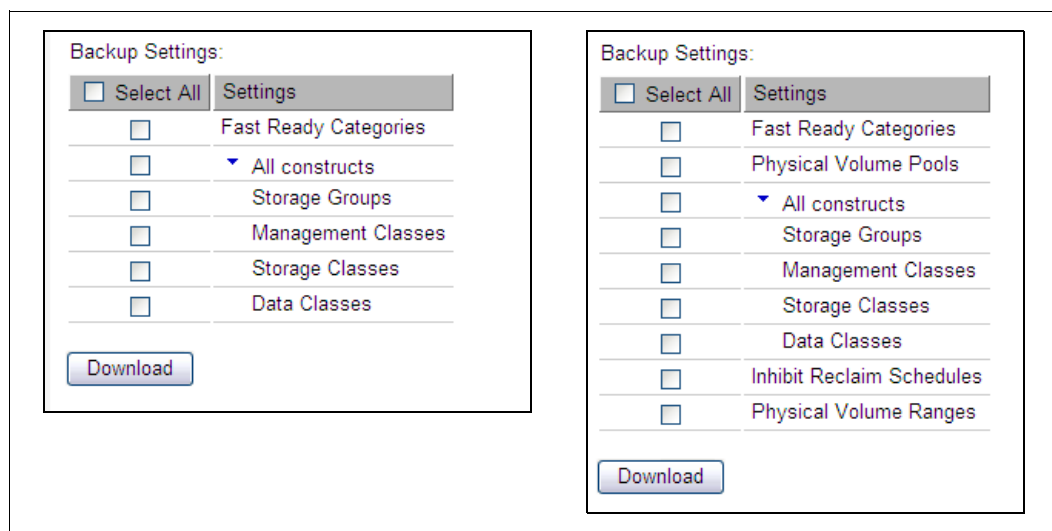

Figure 6-13 Backup construct settings through the MI
- ▶ Plan for the constructs you will be using on the three new clusters. Use the MI to obtain backup files containing the settings to be restored on the TS7720 clusters and the information to be restored on the TS7740 cluster. You can use these files as a basis for the definitions to be made on the new clusters. Figure 6-13 on page 344 shows the settings that are used on the TS7720 (left) and for the TS7740 (right).
1. Back up settings of Cluster 0 from the management interface as described in Figure 6-13 on page 344.